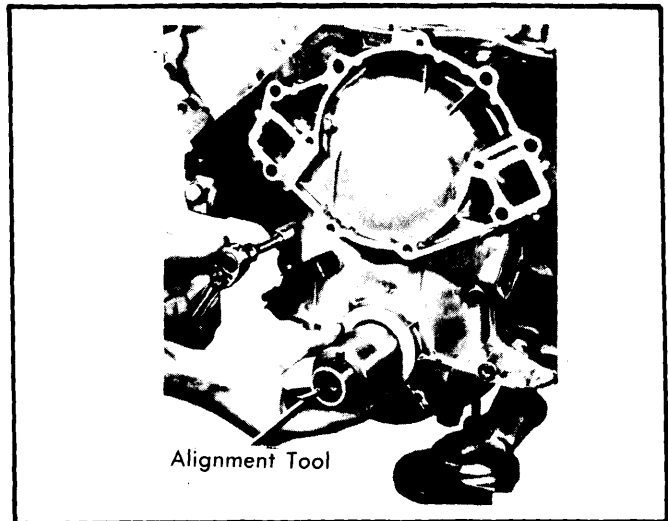

Fig. 15 Aligning Front Cover
2) Position front cover on cylinder block. Install front cover to seal alignment tool in proper position as shown in Fig. 15.